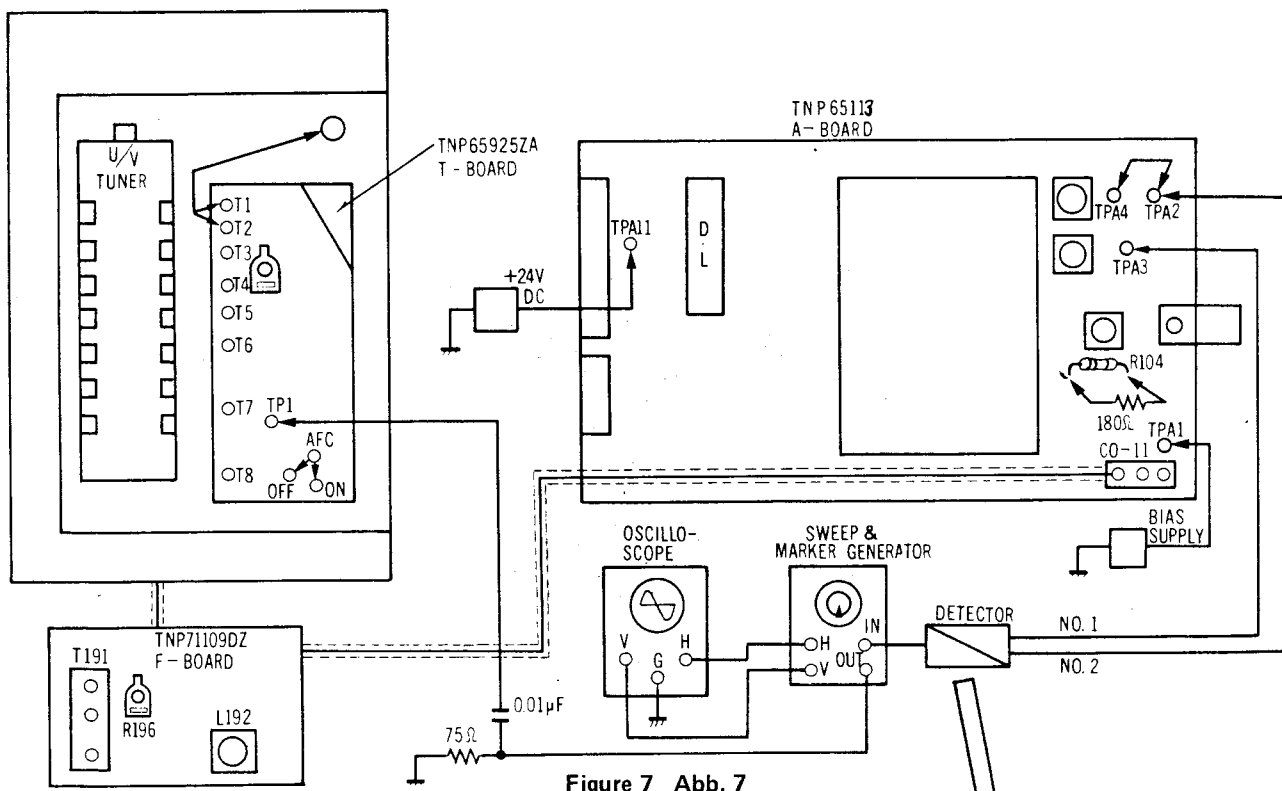

Figure 7 Abb. 7
#### Preparation Step (See figure 7)
4. Connect oscilloscope in figure 7.